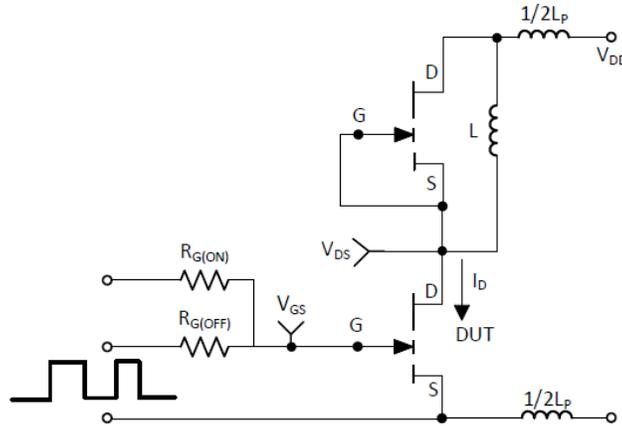

Figure 16: Switching Loss Test Circuit
(6) L_p is the switching circuit parasitic inductance.
(7) See Figure 16 for switching loss test circuit.